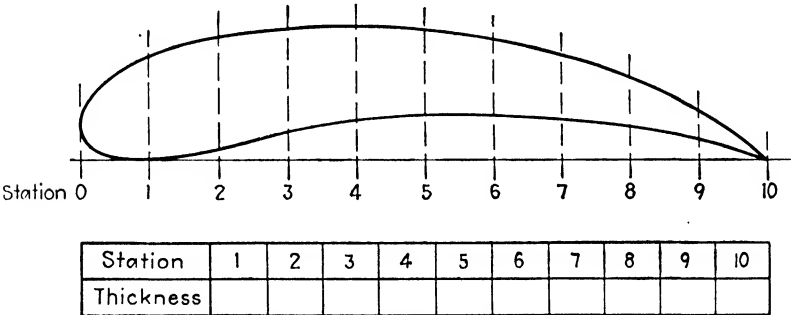

Fig. 9.—Airfoil section.
- 5. In aeronautics, the airfoil section is the outline of the wing rib of an airplane. Measure the thickness of the airfoil section at each station in Fig. 9, to the nearest 64th.
6. What is the distance between station 5 and station 9 (Fig. 9)?